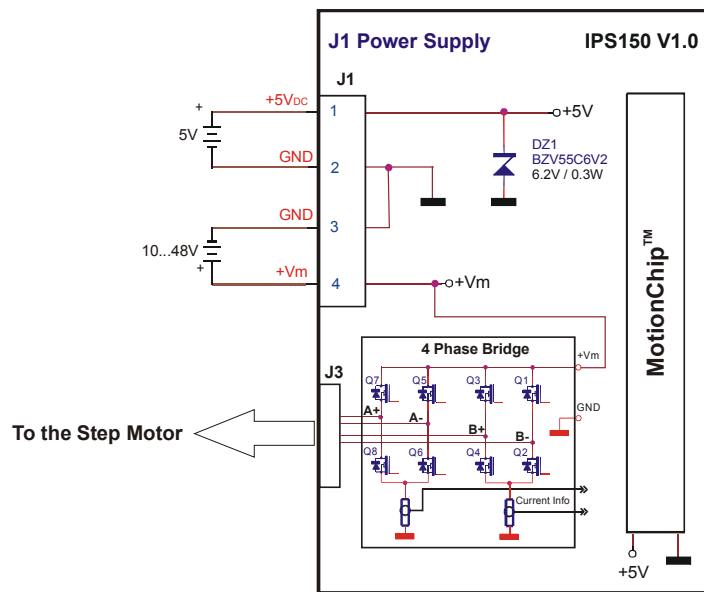
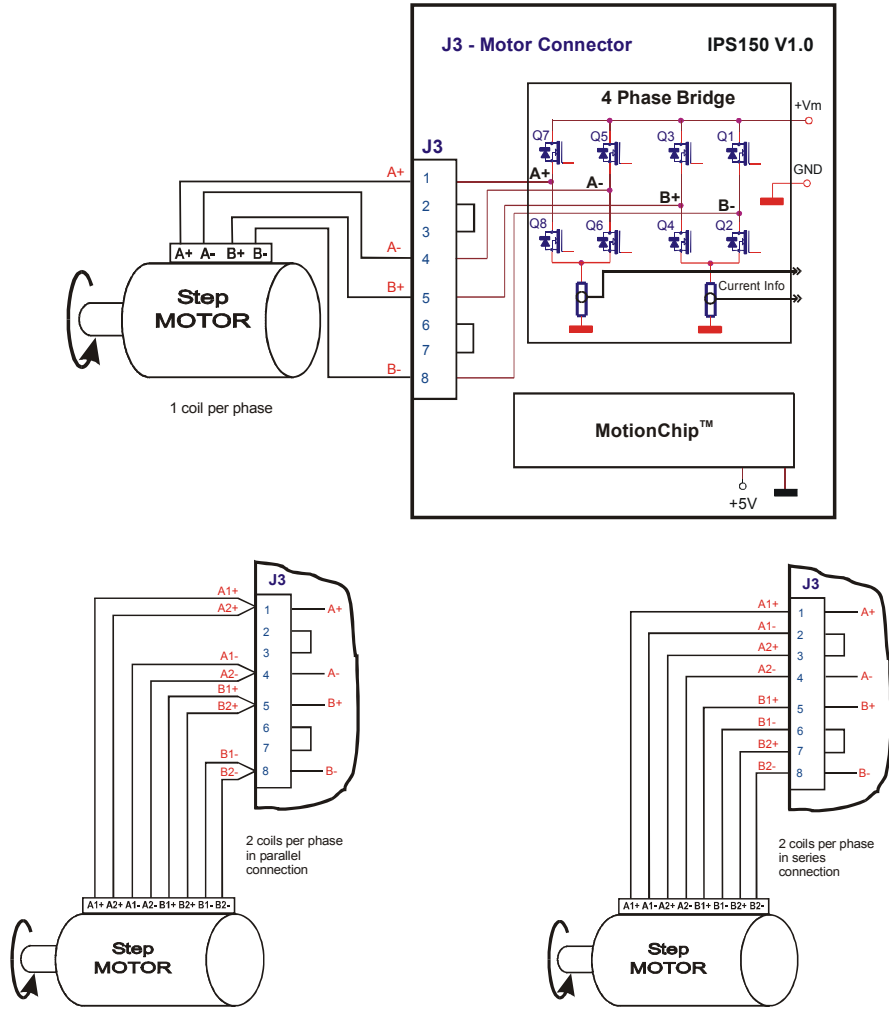
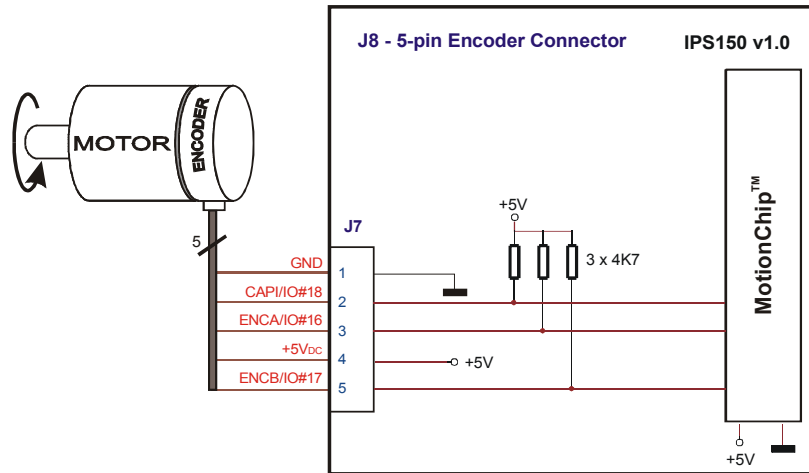

Figure 1. Power Supply – J1 Connector
Figure 2. Motor – J3 connector
Figure 3. Encoder 5 pins – J8 Connector
1. Connect the power supply, the motor and encoder to the IPS150 drive as you can see in the Figure1, Figure 2 and Figure 3 respectively.